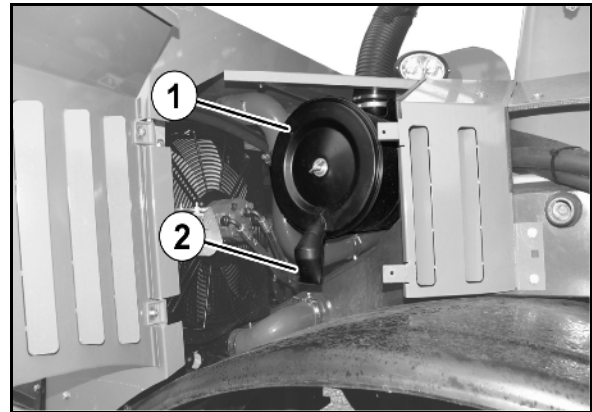

Fig. 166
1. Undo the wing nut of the filter hood (Fig. 166/1).
2. Remove the filter hood and pull out the outer filter element (Fig. 166/2).
6. annually, renew the inner filter element (Fig. 166/3) (never clean it).
- o Loosen the hex. nut (Fig. 166/4) and pull out the inner filter element.